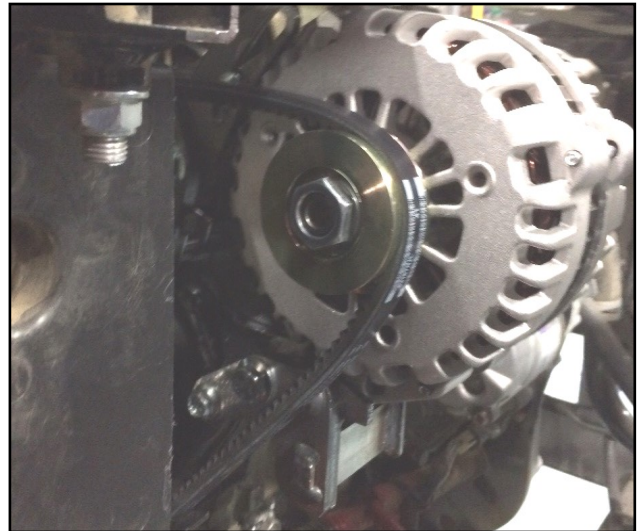

Fig. 3.5 (Install Belt)
- 3.5** Loosely install new V-Belt provided in kit per fig 3.5.